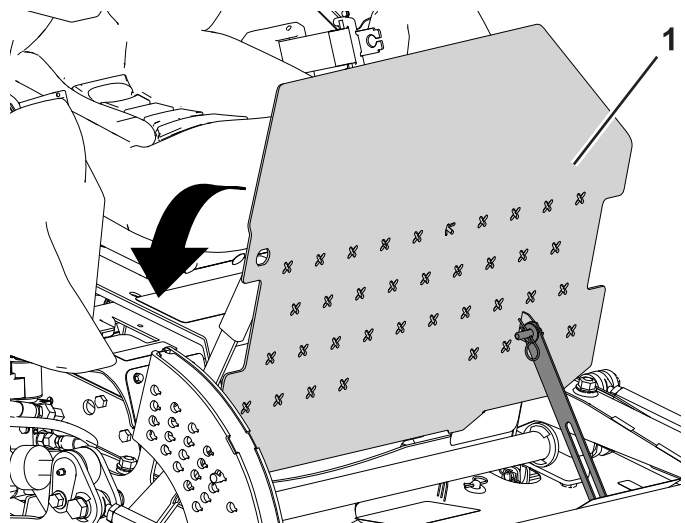

Figure 49
1. Tilt the operator platform into its latched position (Figure 49).